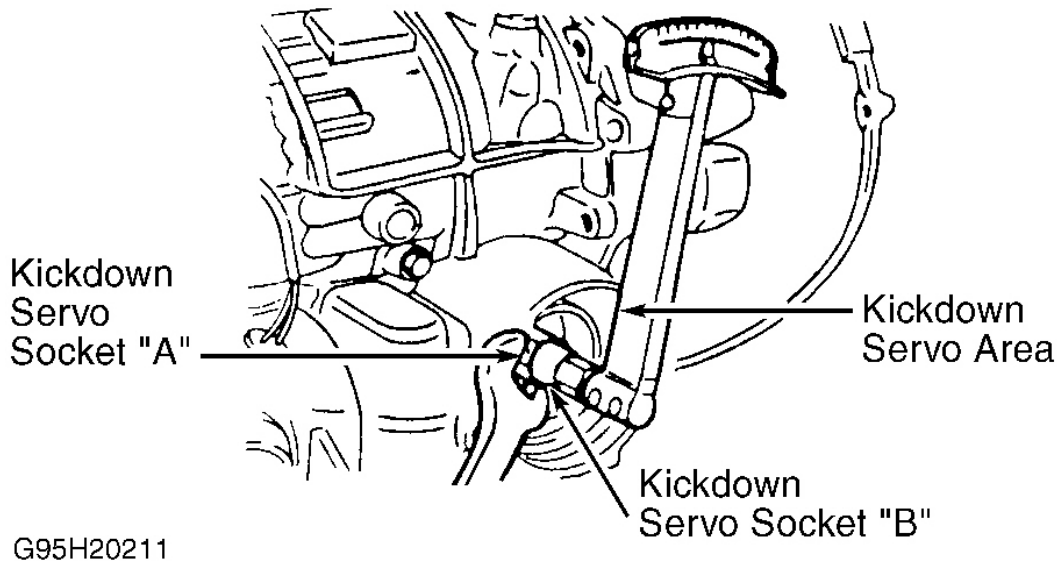

Fig. 4: Identifying & Adjusting Kickdown Servo
1. Ensure area around kickdown servo area on side of transaxle is clean. See **Fig. 4**. Remove snap ring and
2. Loosen kickdown servo lock nut on kickdown servo adjusting screw. Using Kickdown Servo Socket "A" (09454-33101A), hold kickdown servo piston from rotating. See **Fig. 4**.